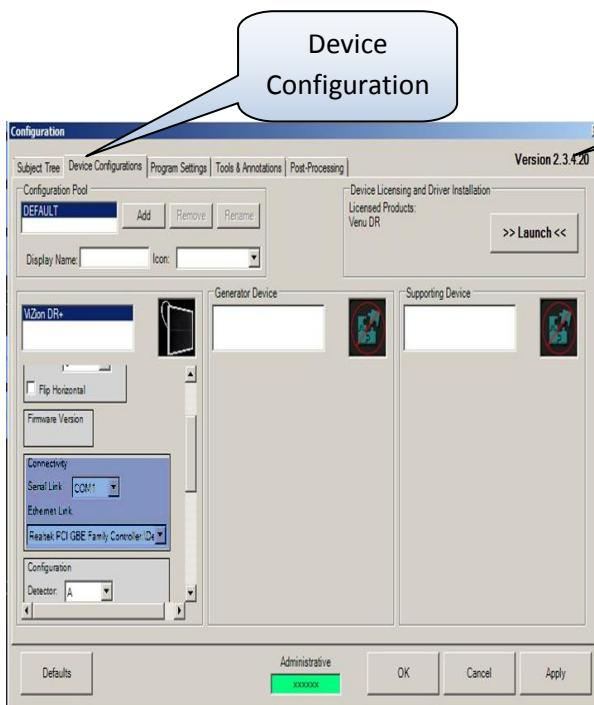

Figure 22: Configuration
3. Select the Device Configurations tab. Figure 22
6. Scroll down the list under device options section , under the connectivity section select the appropriate com port under Serial Link, and the appropriate network adapter under Ethernet link (i.e. com1 , realtek PCI GBE)\* . Figure 22 & 23